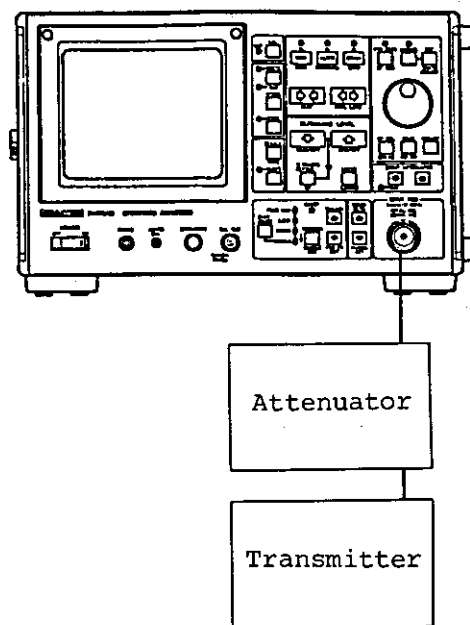
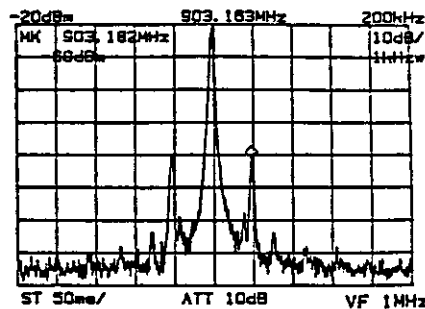

Figure 5-2 Set-up in Measurement of Modulation Wave
Figure 5-9 Measurement of AD Wave When Modulation Frequency is High and Modulation Index is Small
- ① Connect the AM transmitter output to the INPUT connector of this equipment by making it pass through the external attenuator when necessary (Figure 5-2).
- ① Connect the AM transmitter output to the INPUT connector of this equipment by making it pass through the external attenuator when necessary as shown in Figure 5-2.
- ② Set the center frequency to the frequency of the carrier.
- ③ Set the frequency span to less than 10 times the modulation frequency.
- ④ Set the marker to the peak of the carrier and keep recording that frequency (Figure 5-9).
In the example of Figure 5-9,  $f_m = 20$  kHz and  $m = 2\%$ .